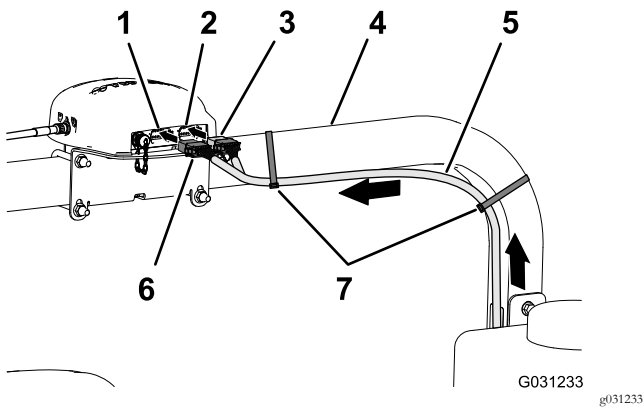

Figure 158
- Route the 390 cm (153-1/2 inches) branch of the data harness along the right ROPS tube with the 12-socket connector (gray) and 12-socket connector (black) up toward the navigation receiver (Figure 158).
- Secure the 390 cm (153-1/2 inches) branch of the data harness to the right ROPS tube with 2 cable ties as shown in Figure 158.